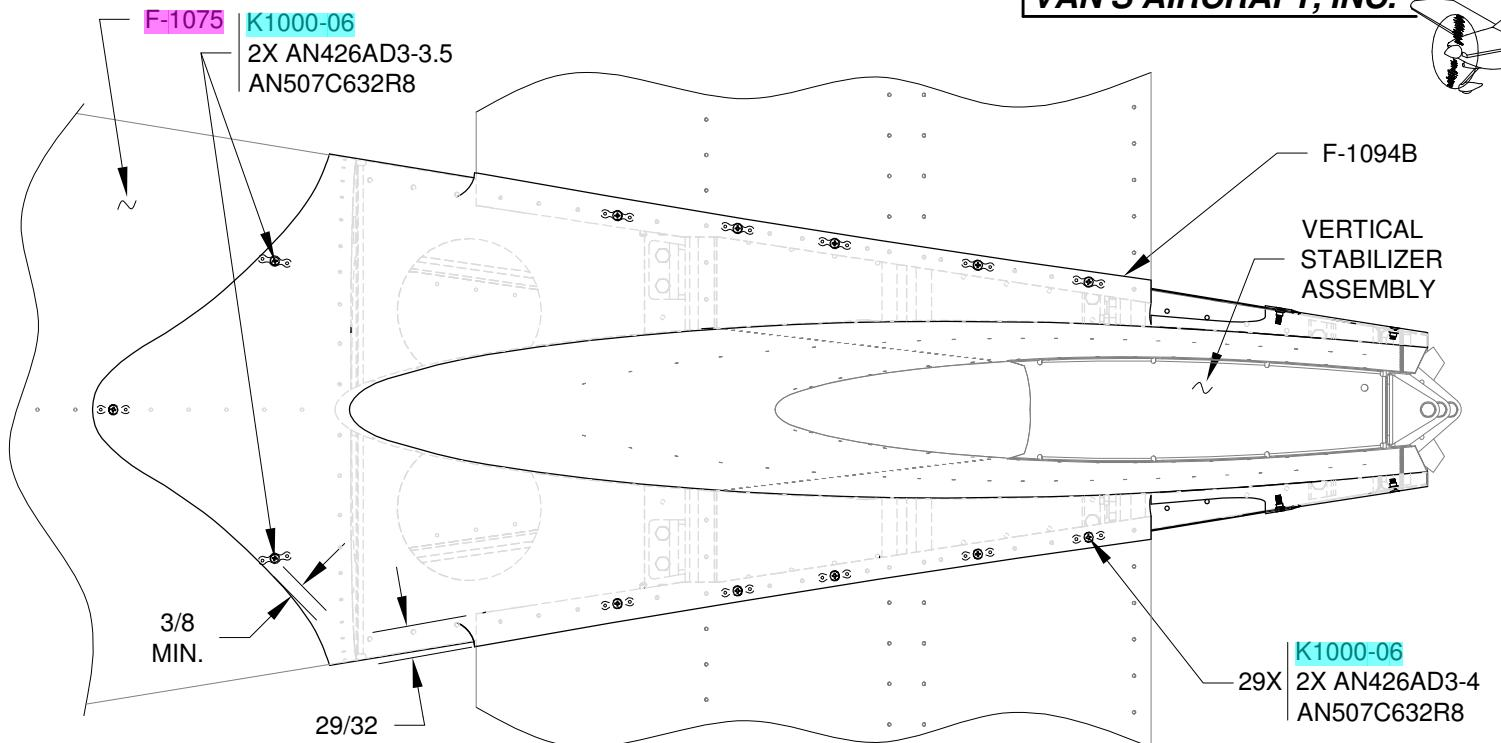
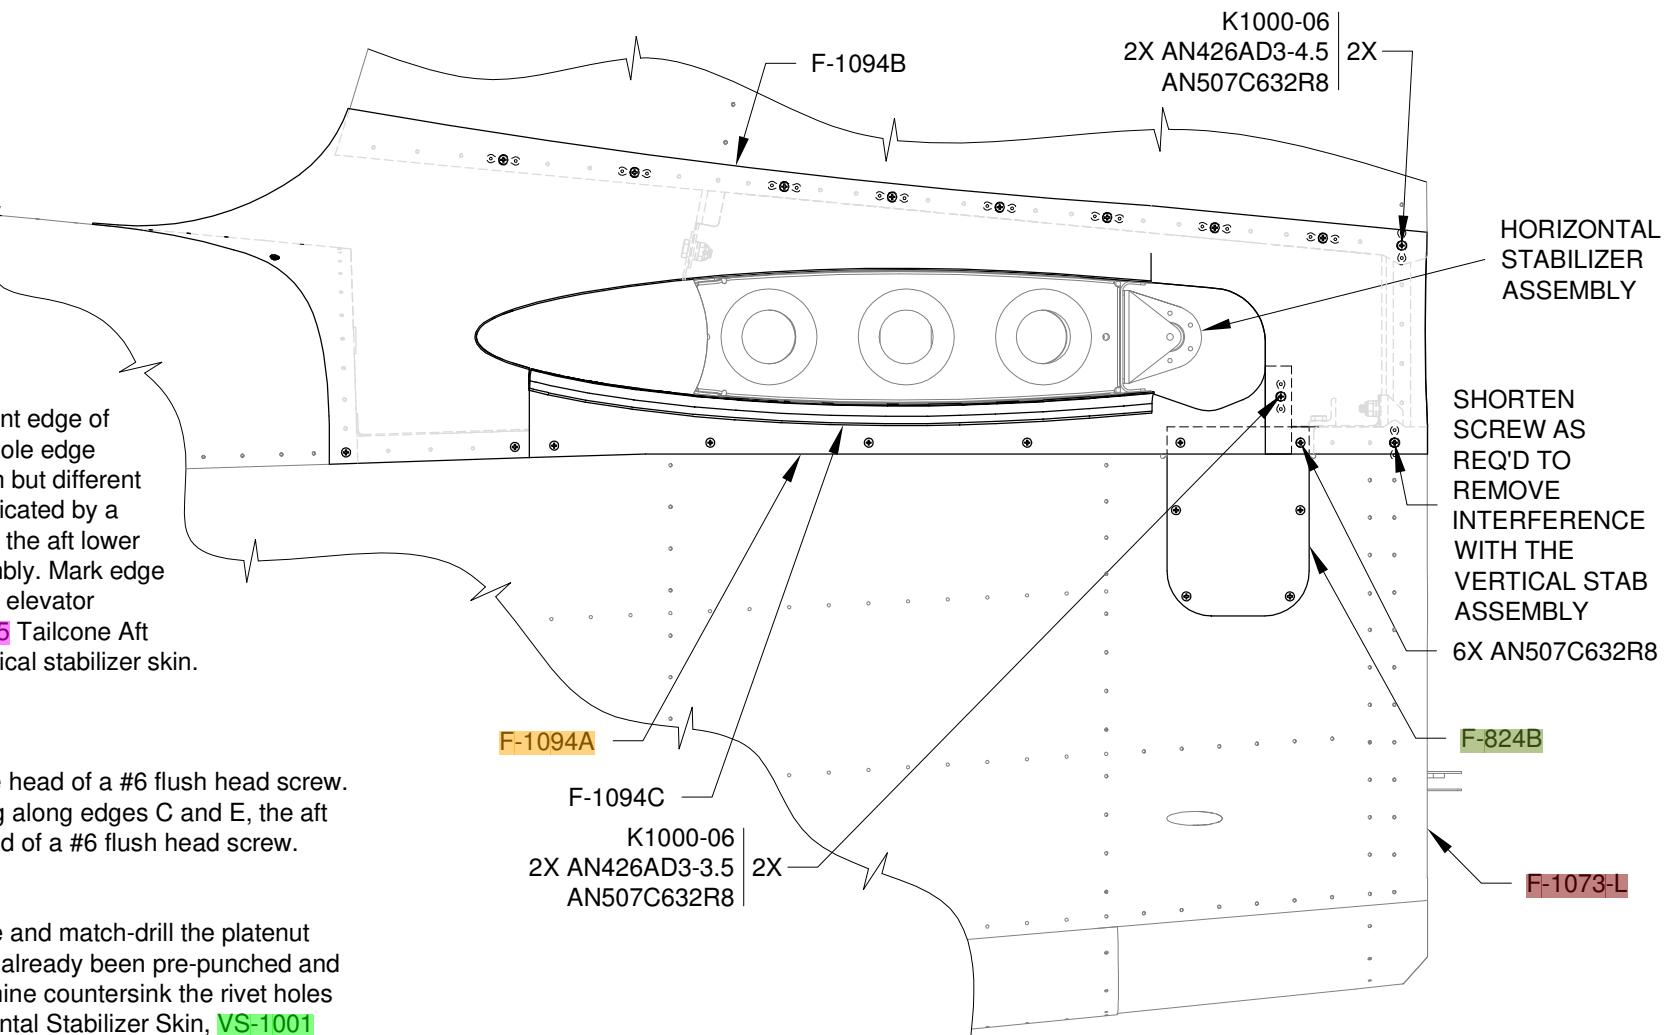

FIGURE 2: EMPENNAGE FAIRING INSTALLATION TOP VIEW
FIGURE 3: EMPENNAGE FAIRING INSTALLATION SIDE VIEW
Step 6: The locations just drilled #27 require nutplates. Use a K1000-06 nutplate (aligned with a #6 screw) as a drill guide and match-drill the platenut attach pattern into the F-1094A Empennage Gap Cover, horizontal and vertical assemblies (note the nutplate pattern has already been pre-punched and dimpled in the F-1075 Tailcone Aft Top Skin). Orient the platenut attach patterns as shown in Figure 2 and Figure 3. Machine countersink the rivet holes that attach the aft most nutplate to the vertical stabilizer assembly. Dimple the remaining locations on the HS-1001 Horizontal Stabilizer Skin, VS-1001 Vertical Stabilizer Skin and F-1073 Side Skin for the head of the nutplate attach rivets. Dimple then rivet the nutplates to the tailcone, horizontal and vertical assemblies as shown in Figure 2 and Figure 3.
Step 6: Machine countersink the **F-1073-L** Tailcone Side Skin Left and **F-1032-L** Tailcone Longeron Left to accept the dimples in the **F-1094A** Empennage Gap Cover and **F-824B** Cover Plate, except the aft most hole which does not need to be dimpled since the empennage fairing is machine countersunk for the screw head already in this location, see Page 12-5, Figure 3. See Figure 2, Section A-A.